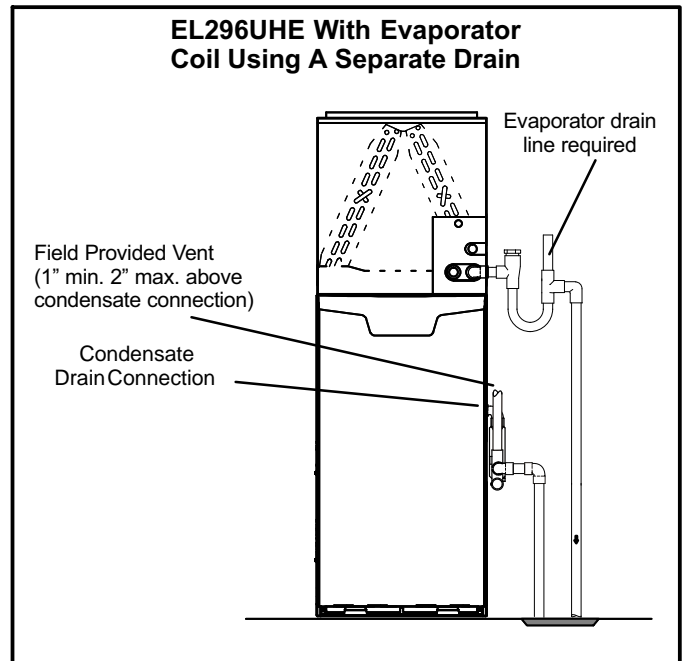
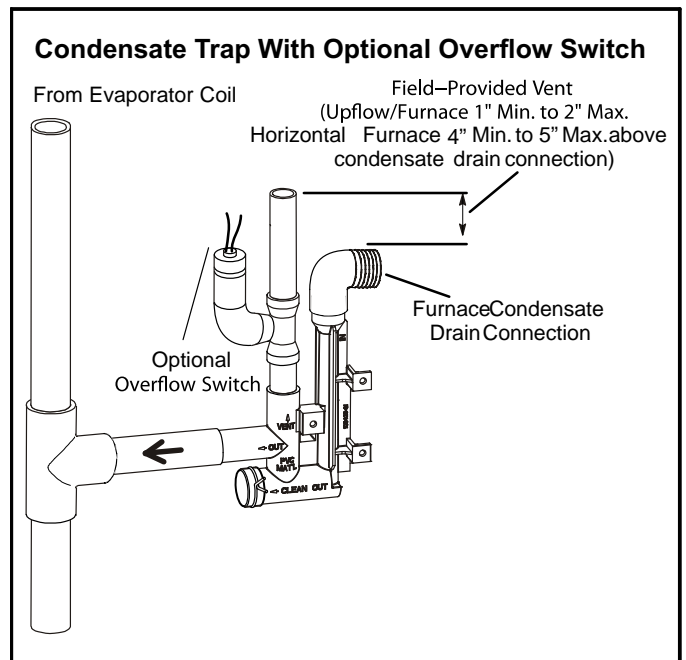

FIGURE 54
FIGURE 55
- 5 - Figures 54 and 56 show the furnace and evaporator coil using a separate drain. If necessary the condensate line from the furnace and evaporator coil can drain together. See figures 55, 57 and 58.